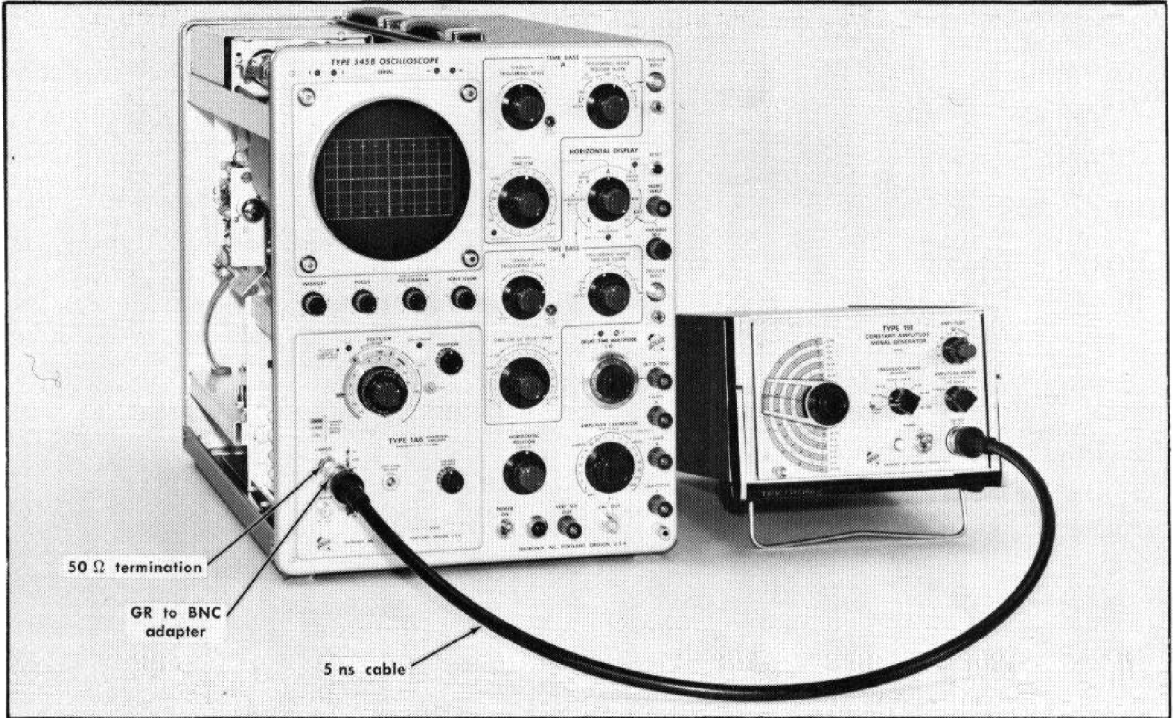

Fig. 6-19. Equipment setup for step 14.
- a. Equipment setup is shown in Fig. 6-19.